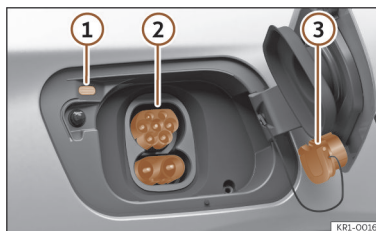

Fig. 58 Behind the battery charging cover on the rear right-hand side.
- Remove the protective cap and hang it on the hook >>> **Fig. 58** ③
- Plug the charging station's charging connector into the charging socket >>> **Fig. 58** ②
The LED (charging process indicator) of the charging socket flashes or flashes white >>> **Fig. 58** ① >>> page 80
The charging process indicator on the charging socket ① flashes green >>> **Fig. 58**.
- Tap the **Stop charging** function button on the infotainment system display. The charging process indicator located next to the charging socket ① lights up white >>> **Fig. 58**. The charging connector is unlocked.
- Place the protective cap on the charging socket's lower connection >>> **Fig. 58③**